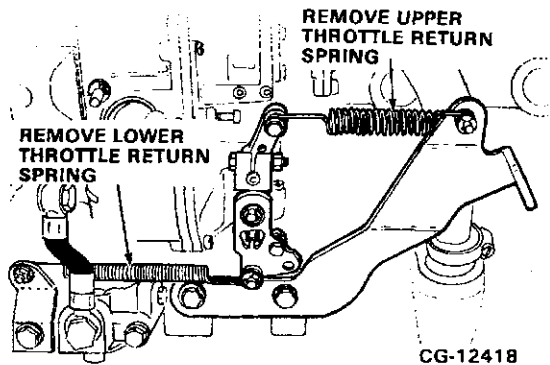

Figure 11.100. Remove Upper and Lower Throttle Return Springs (Current Production)
- Remove the upper and lower throttle return springs. Refer to Figures 11.100 and 11.101.